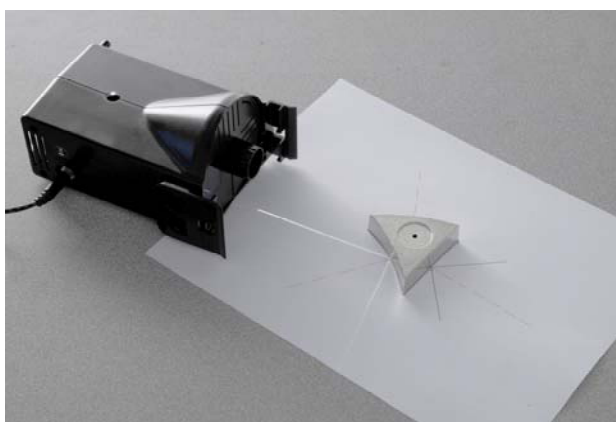

Figure 7: Concave Mirror Reflection
1. Adjust the position of the light source so the single light ray now hits the concave mirror at the point the normal line extends from the outline as in Figure 7.
2. Use the ruler and pen or pencil to trace the paths of the incident and reflected light rays. Label each line "Ray 1 Incident" or "Ray 1 Reflected" similar to Figure 7 to help differentiate them.